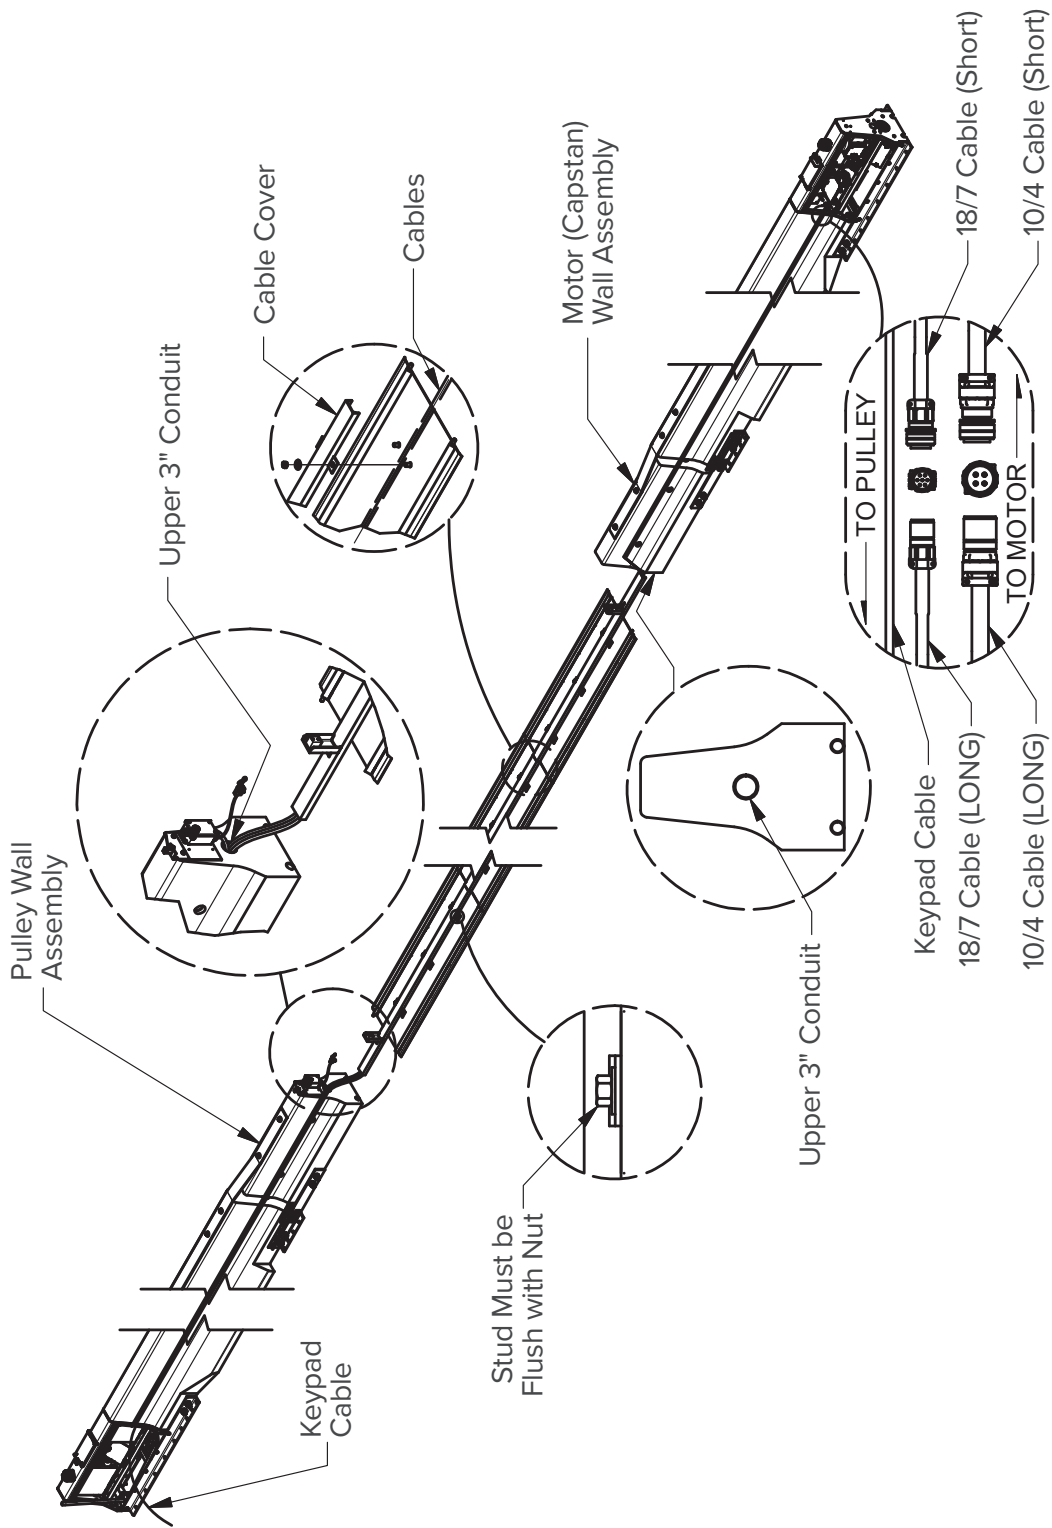

Figure 10
1. String the electrical control cables between the wall assemblies and connect Amphenol connectors (Figure 10).
- C. Use an electrical fish tape to pull the wires through the **upper** 3" conduit in the motor wall assembly and into the control enclosure. Plug the pulley and motor cables together (Figure 10).